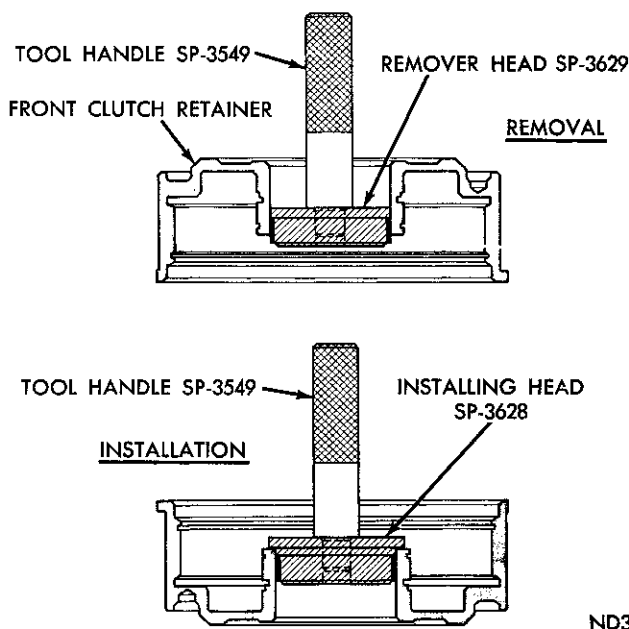

Fig. 55—Replacing Front Clutch Retainer Bushing (A-727)
(1) Lay clutch retainer (open end down) on a clean smooth surface and place removing head Tool SP-3629 in the bushing. Install handle Tool SP-3549 in removing head (Fig. 55).
(2) Drive bushing straight down and out of clutch retainer bore. Be careful not to cock tool in the bore.
(3) Lay clutch retainer (open end up) on a clean smooth surface. Slide a new bushing on installing head Tool SP-3628, and start them in clutch retainer bore.
(4) Install handle Tool SP-3549 in the installer (Fig. 55). Drive bushing into clutch retainer until tool bottoms.
(5) Thoroughly clean clutch retainer before assembly and installation.